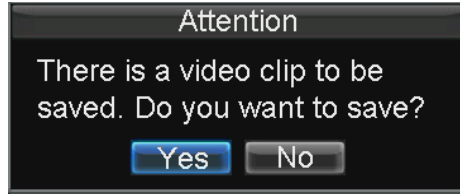

Figure6. Video Clips Saving Prompt
4. Click the *Quit Playback* button to exit from the Playback interface. You'll then be prompted to save the clips, as shown in Figure 6.